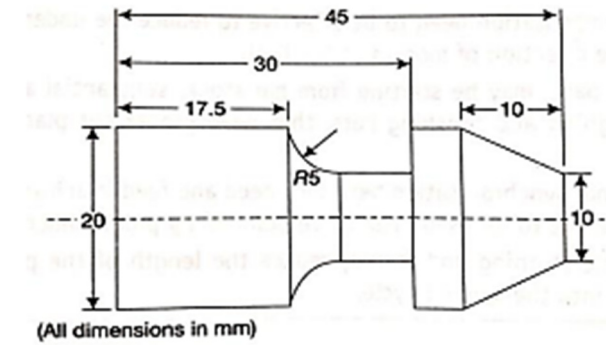

Figure 1
- OR iii. Write a CNC program using appropriate G and M code to turn component as shown in Figure 1 cutting speed $V = 40$ m/min and feed = 0.1, assume suitable data for depth of cut. **7**